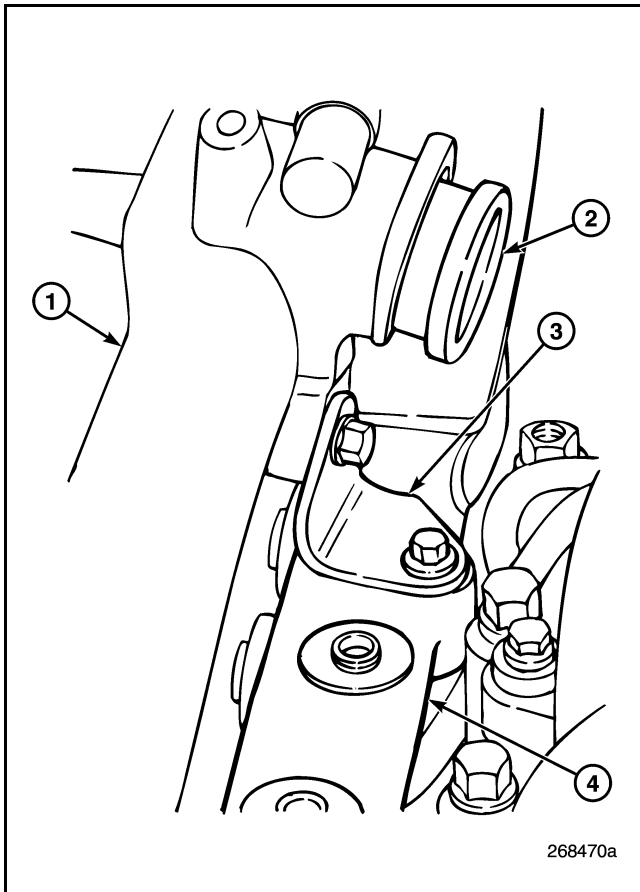

Figure 140 — Support Bracket
2. Remove the capscrew from the support bracket at the side of the EGR gas mixer tube. The bracket is attached between the mixer tube and the coolant manifold (Figure 140).